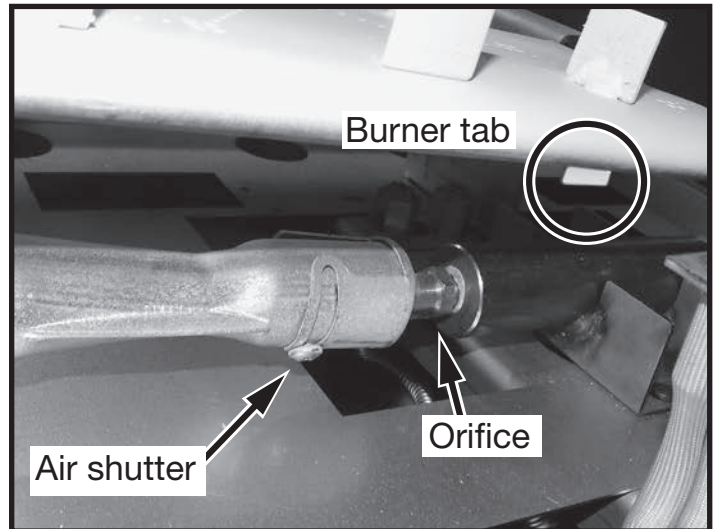

Figure 10: Installing left hand burner air shutter onto orifice.
9. While lining up the tab and the slot, fit the air shutter over the orifice. Lay the burner down onto the center leg and the outside left leg. Move the burner toward the center of the fireplace until the tab reaches its end in the slot (Figure 10).